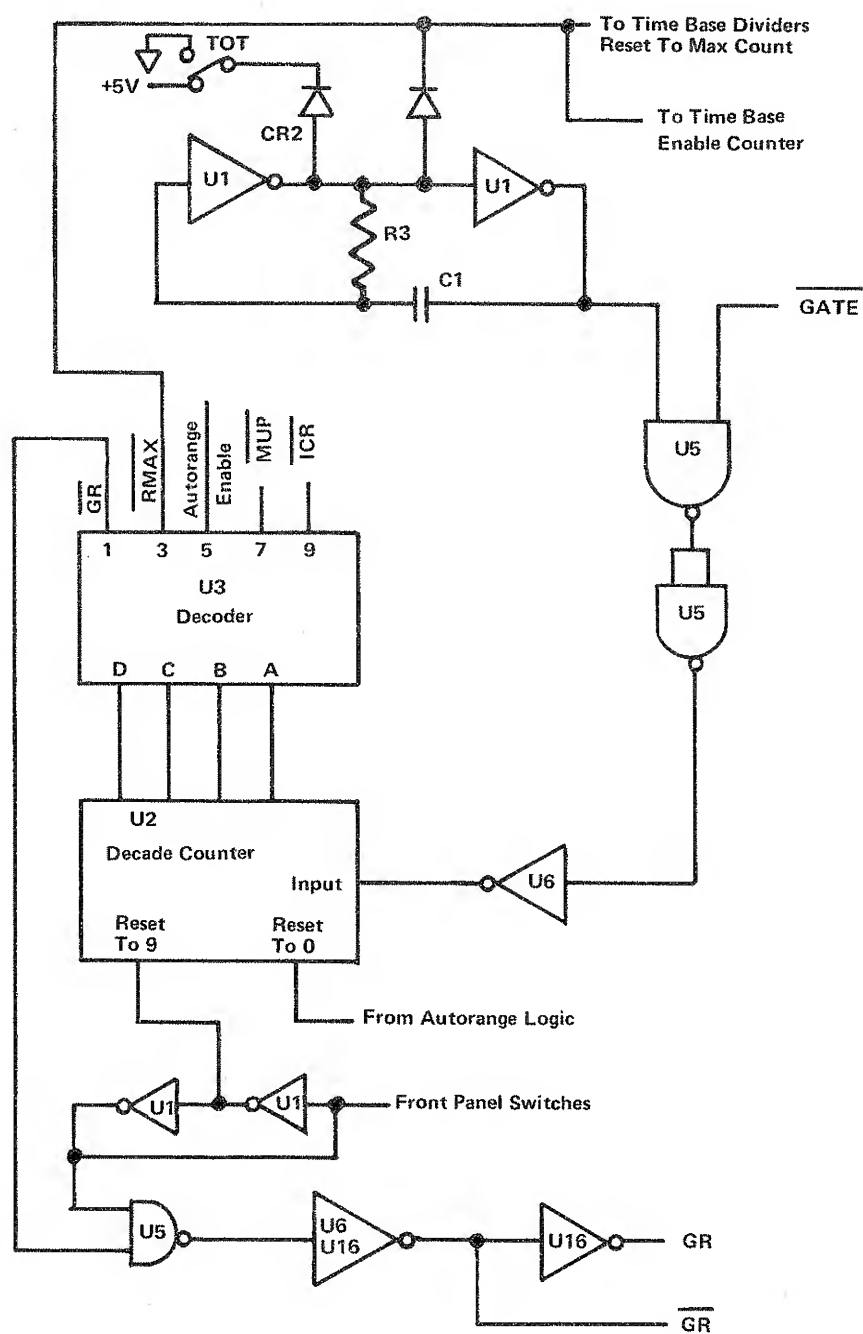

Figure 3-6. SEQUENCER
3-22. The sequencer consists of a relaxation oscillator (U1), a decade counter (U2), and a decoder (U3). Refer to figure 3-6. Two sections of U1 are used to form the relaxation oscillator. R3 and C1 determine the frequency, approximately 100 Hz. U2 counts the oscillator frequency and presents the count to U3 in BCD form. Outputs from U3 are used to command events in the 1900A sequence. In all cases the output of U3 goes low to select an event. Step 1 is general reset (GR). The output of U3 is applied to a two-input NAND gate, one section of U5. The other input to the NAND gate is from the front panel switches through U1. If either input goes low, GR is initiated. The output of U5 is inverted twice to obtain the required GR and  $\overline{\text{GR}}$  signals.